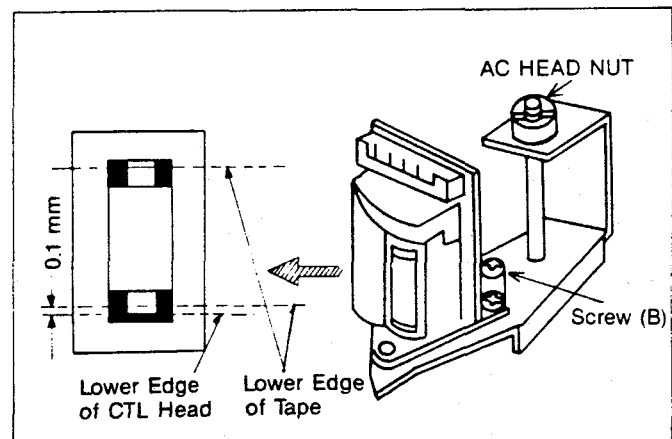

Fig. 30
Playback the tape and confirm the tape runs between lower and top limiters of the post P4. If the lower edge of the tape turns with waving or wrinkle, then correct the tilt of the A/C head by turning screw (B) shown in Fig. 30.